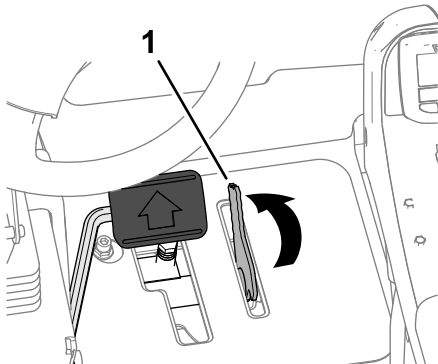

Figure 36
3. Use your foot to move the lever for the mow-speed limiter forward, to the Mow position (Figure 36).